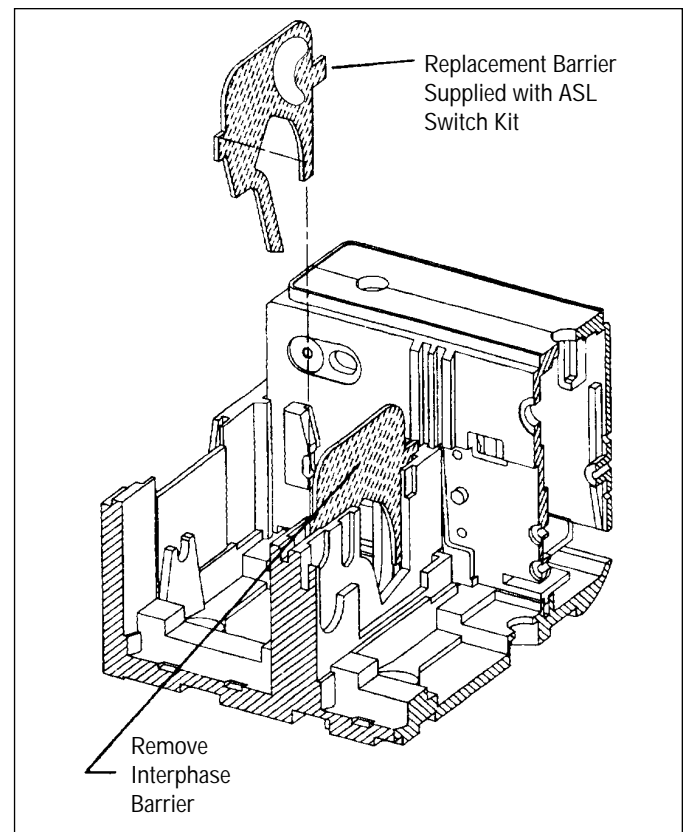

Figure 2-2 Interphase Barrier Replacement
- 2-6. Remove interphase barrier between center pole and pole in which accessory is to be mounted (Figure 2-2).
- 2-7. Install replacement interphase barrier (supplied with kit) in base (Figure 2-2).